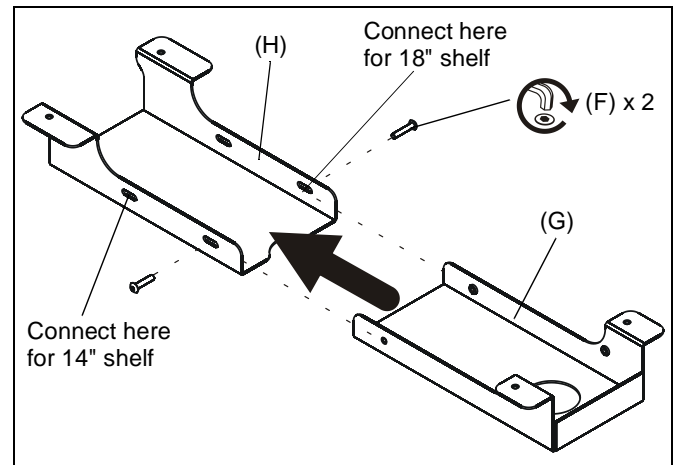

Figure 4
1. Connect the front U-channel (G) and back U-channel (H) with two 10-24x1/2" button head cap screws (F). (See Figure 4)